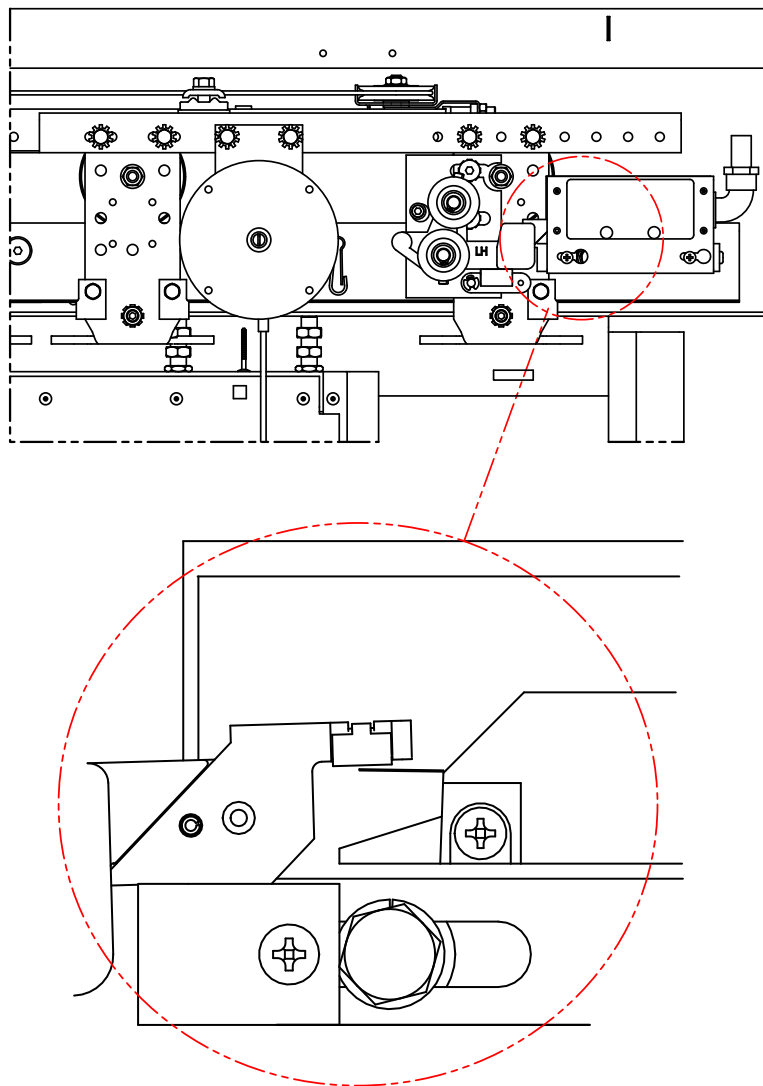

Figure 44 - Two Speed Interlock Adjustment
3. Close the doors, and verify the following. See Figure 44 on page 63.